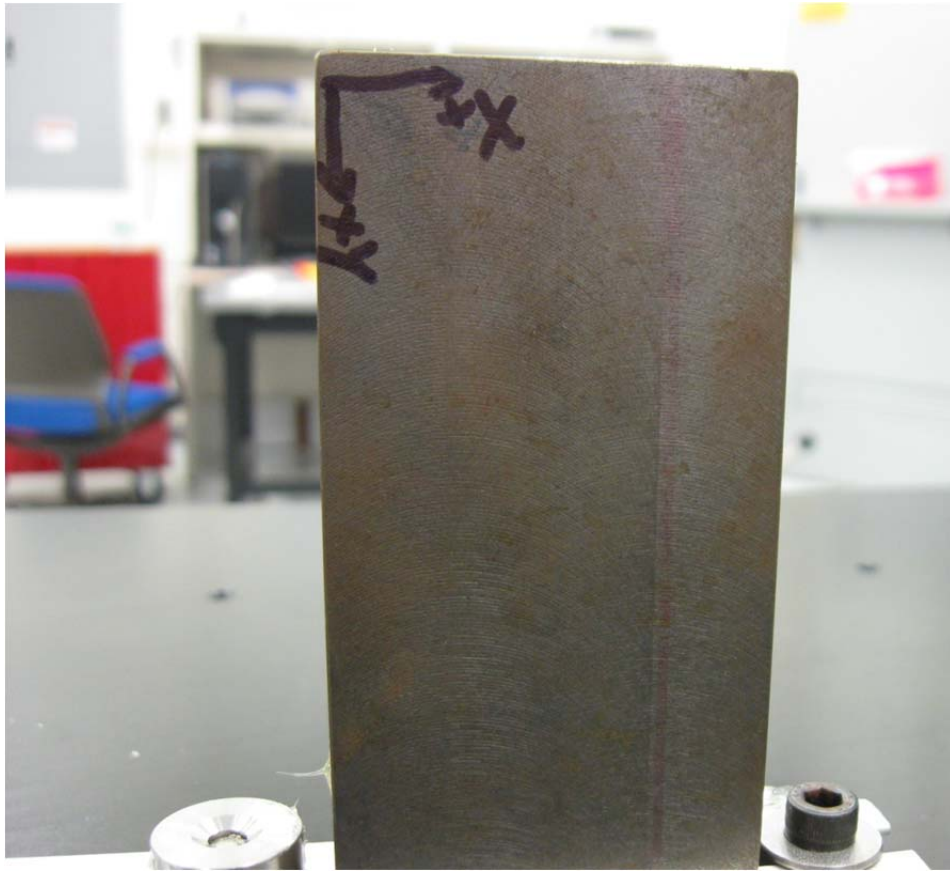

Figure B-4. Sample Labeled With Intended Coordinate System
4. Mark sample with intended coordinate system and label fiducial nests (Figure B-4)